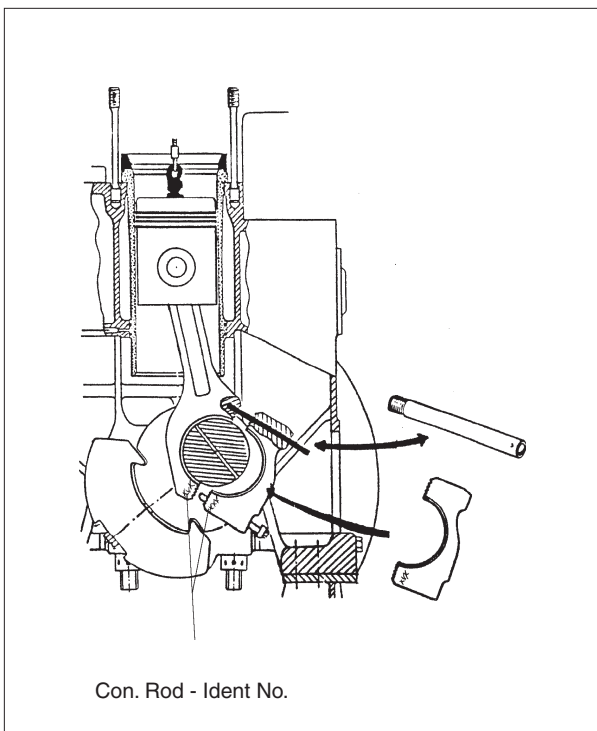

Fig. 4.
**Note !** The ident no. on the connecting rod and on the bearing cap, must always be the same, see fig. 4.
**9)** Mount the bearing cap with inserted lower shell of the big-end bearing, using the guide pin, see fig. 4.